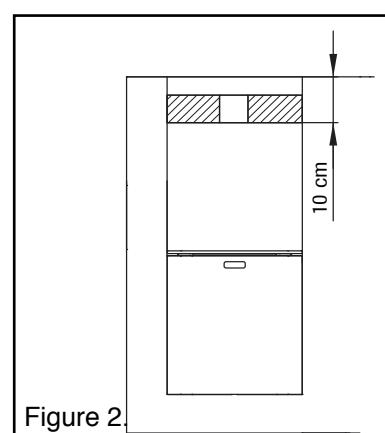

Figure 2
- Install the sensor in the area lined in Figure 2.